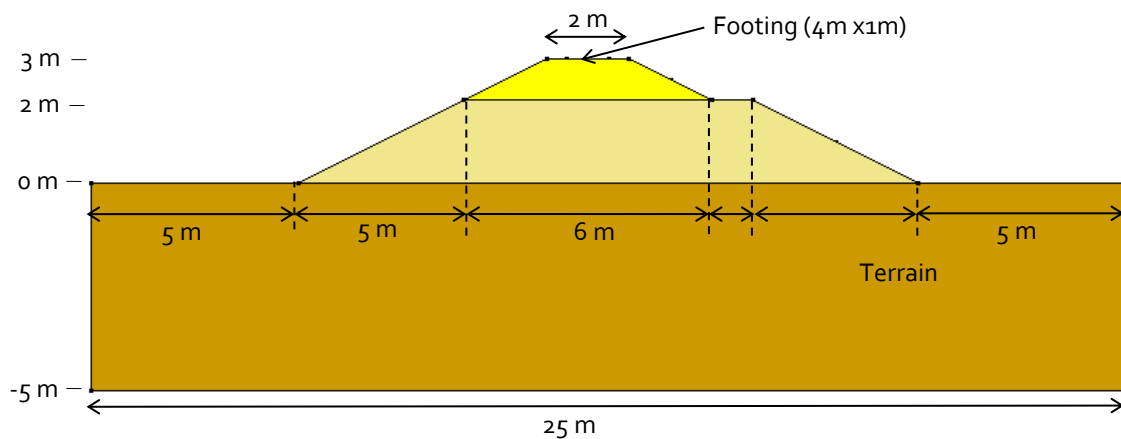

Figure 1: plane view of the embankment
- Define the coordinates of the construction points (see figure 1).